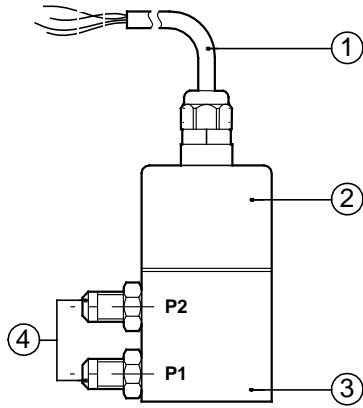

Fig. 62 DPI position numbers
A cable (pos. 1) goes through an M12 x 1.5 Pg connection. See fig. 62.